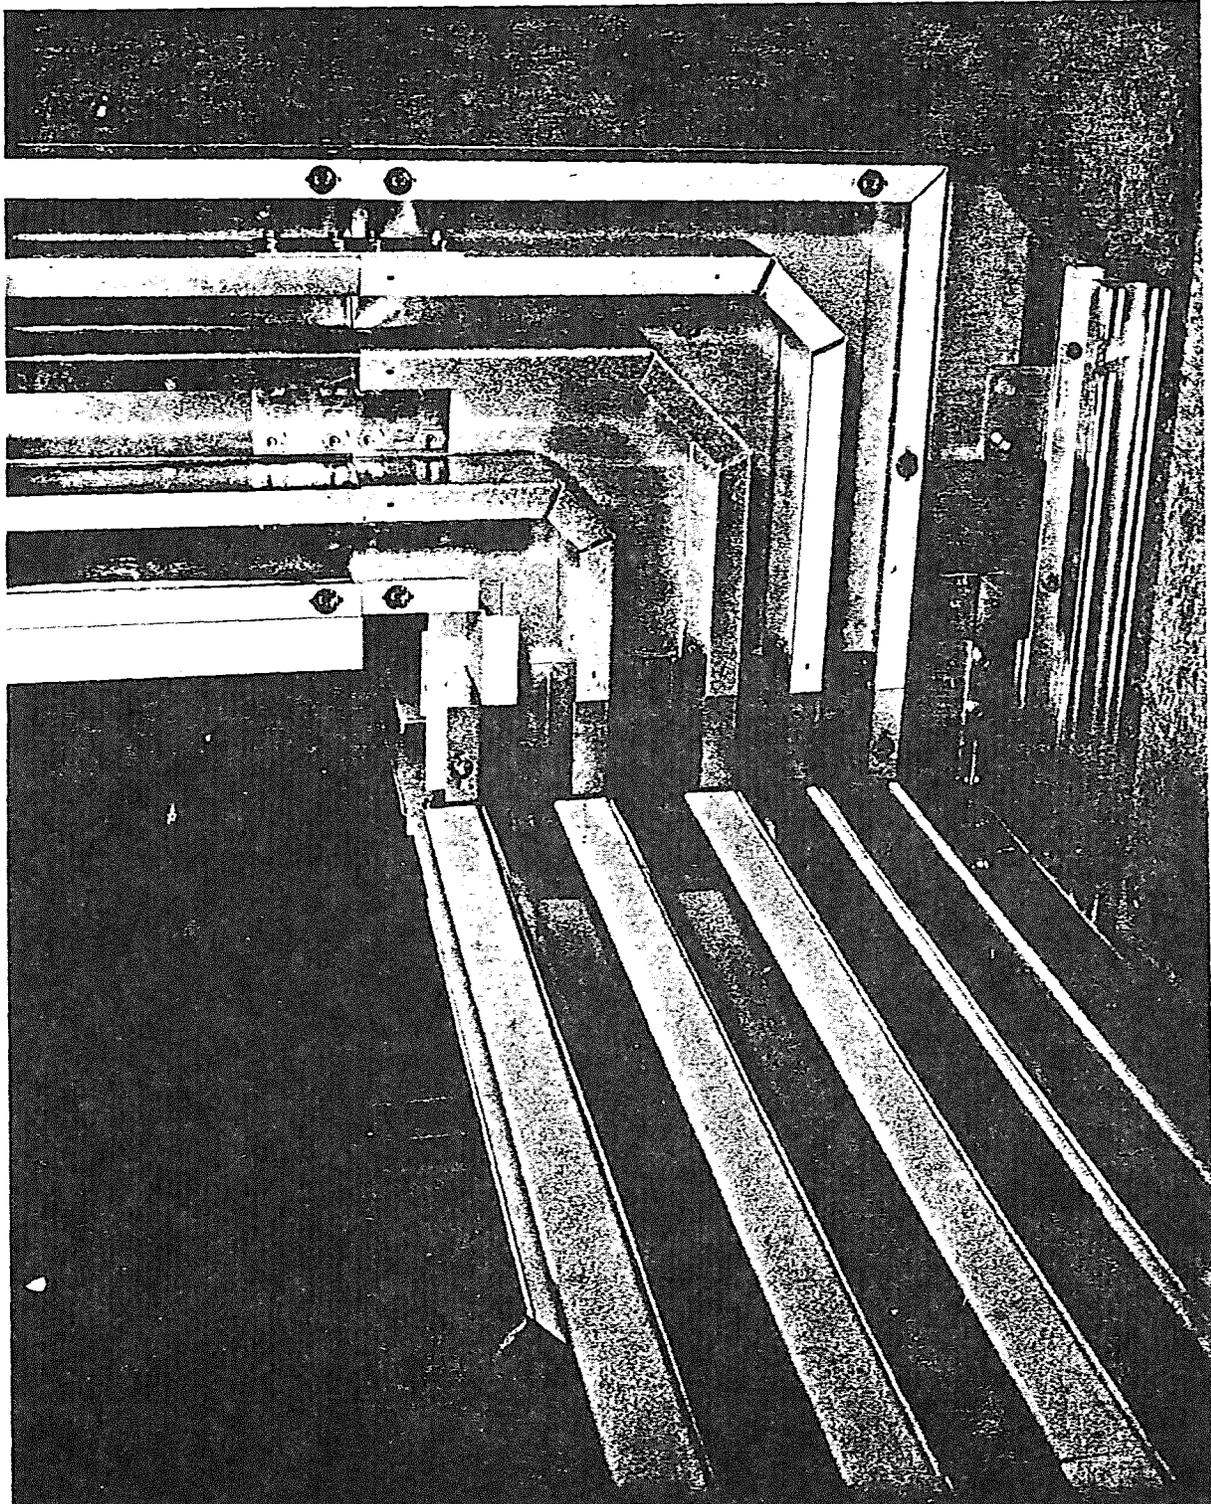

FIGURE 5
- 4.7 If vertical cable ducts are required, assemble using ED-1E398-70, ED-1E374-01 and Figures 5 and 6 as guides.